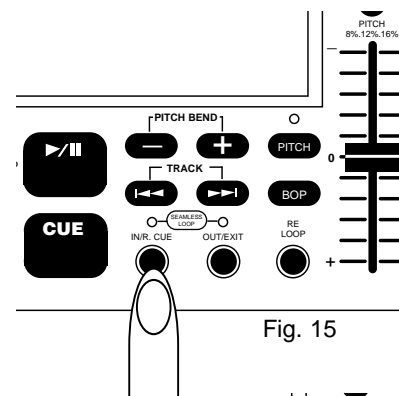
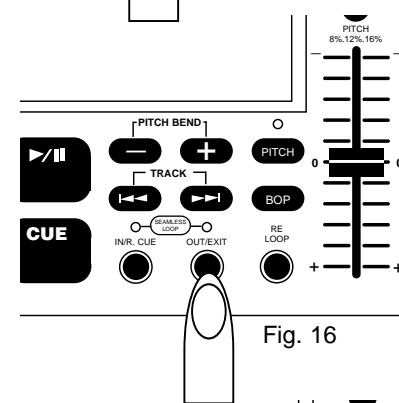

Fig. 15
Fig. 16
- Press **PLAY/PAUSE BUTTON (25)** so a CD is playing.
- Press **IN/R. CUE BUTTON (15)**. This sets the starting point of the SEAMLESS LOOP. The **IN/R. CUE LED** will light (Fig. 15).
- Press **OUT/EXIT BUTTON (18)** to set desired ending point of the SEAMLESS LOOP. The **IN/R. CUE** and **OUT/EXIT LEDs** will flash indicating SEAMLESS LOOP mode has been activated.
- The **LOOP INDICATOR (39)** will display in the LCD display (27) indication that a loop is running.
- To exit a SEAMLESS LOOP, press the **OUT/EXIT BUTTON (18)**. The **IN/R. CUE** and **OUT/EXIT LEDs** will remain on, but will stop flashing. Music will resume normal play (Fig. 16)
loops cue point. (Fig. 16). This disengages the SEAMLESS LOOP mode and allows you to edit the loops ending point.
- (2) Press **OUT/EXIT BUTTON (18)** again for a new loop ending point (Fig. 16).
- (3) **FOR A SHORTER LOOP:** Press the **OUT/EXIT BUTTON (16)** at sooner point in the track.
- (4) **FOR LONGER LOOP:** Press the **OUT/EXIT BUTTON (16)** at later point in the track.